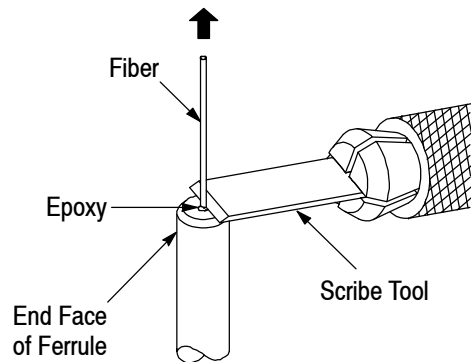

Figure 6
1. Firmly support the assembly, and place the blade of the scribe tool directly above the epoxy. DO NOT allow the blade to make contact with the epoxy. See Figure 6.